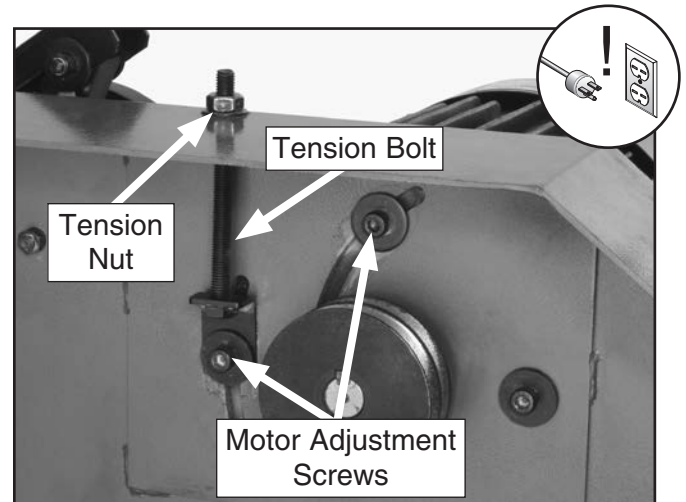

Figure 68. Motor mount bolts and tension bolt (lower wheel removed for clarity).
3. Loosen the motor adjustment screws shown in **Figure 68**.
3. Loosen the motor adjustment screws shown in **Figure 68** on **Page 56**, then turn the tension nut counterclockwise.